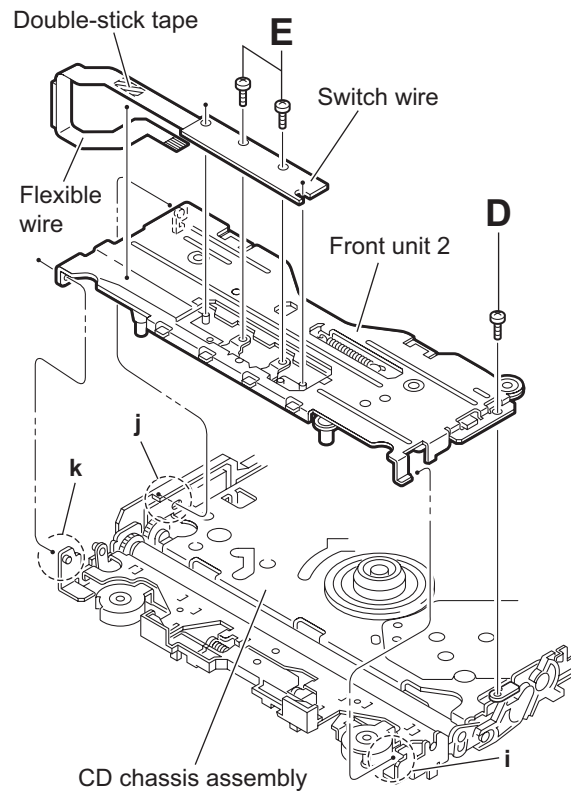

Fig.12
- (4) Release two joints **j** and **k** on the right side of the CD chassis assembly. (See Fig.12.)
- (5) Take out the front unit 2 in an upward direction.
- (6) Remove the double-stick tape fixing the flexible wire and remove the two screws **E** attaching the switch wire. (See Fig.12.)